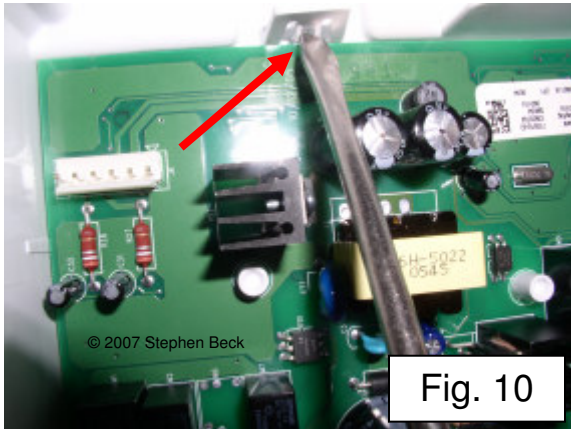

Fig. 10
14. Using your flat blade screwdriver, push the small fingers on one of the tabs away from the PCB and using your finger, or the 2nd flat blade screwdriver, GENTLY pry the side of the PCB toward you enough to clear the fingers on the tab. (Fig 10)